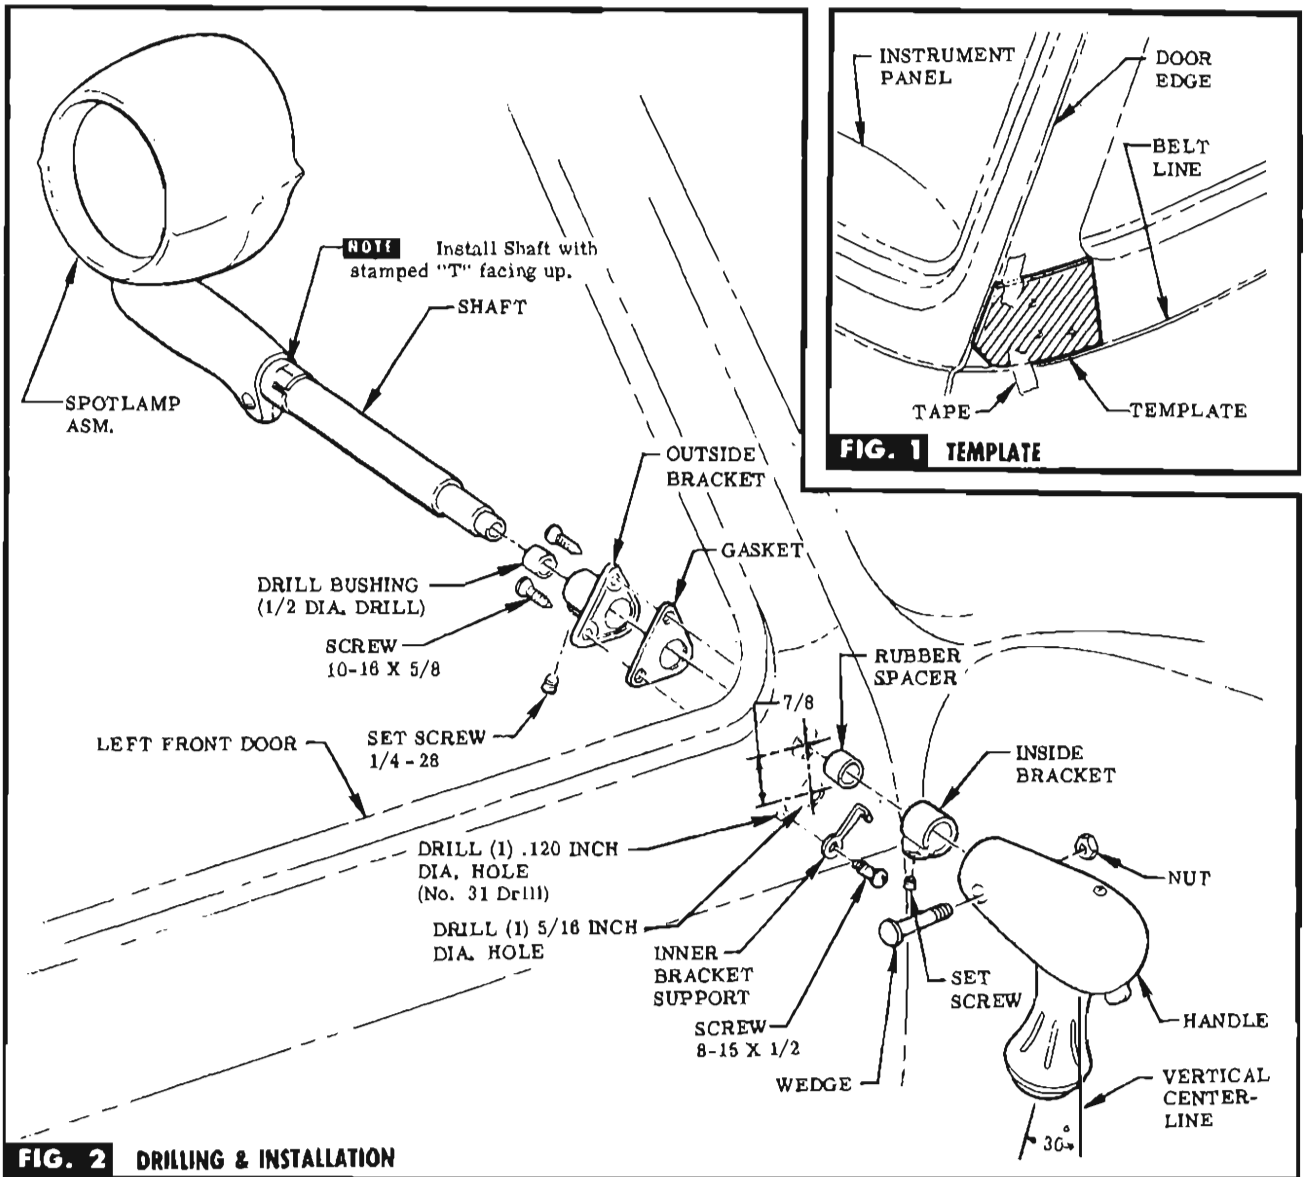

FIG. 2 DRILLING & INSTALLATION
STEP 2 ATTACH OUTSIDE BRACKET & GASKET WITH SCREWS. SEE FIG. 2.
STEP 3 INSERT DRILL BUSHING IN BRACKET & TIGHTEN SET SCREW. CENTER PUNCH & DRILL HOLE THRU DOOR. LOCATE, CENTER PUNCH, & DRILL GROMMET HOLE ON INSIDE OF DOOR. SEE FIG. 2.
STEP 5 INSERT SPOTLAMP SHAFT THRU BRACKET & ROTATE TO ENGAGE TONGUES IN OUTSIDE BRACKET WITH SLOTS ON SHAFT. TIGHTEN SET SCREW. SEE FIG. 2.
STEP 6 PLACE RUBBER SPACER ON SHAFT & ROTATE TO MATCH CONTOUR OF DOOR. POSITION INNER BRACKET SUPPORT INTO THE INSIDE BRACKET & SLIDE ONTO SHAFT, PRESS TIGHT TO DOOR & TIGHTEN SET SCREW. SEE FIG. 2.
STEP 7 USING SUPPORT AS A TEMPLATE, CENTER PUNCH & DRILL HOLE IN DOOR. ATTACH SUPPORT TO DOOR WITH PROVIDED SCREW. SEE FIG. 2.
STEP 8 WITH SPOTLAMP IN NORMAL UPRIGHT POSITION REINSTALL HANDLE TO FACE 30° TO THE REAR & SECURE WITH WEDGE & NUT. SEE FIG. 2.